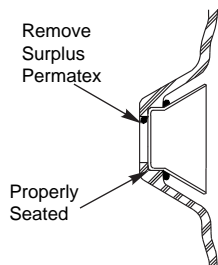

Figure 8C
- D. Remove surplus silicone RTV from insert cavity (see Figure 8C)